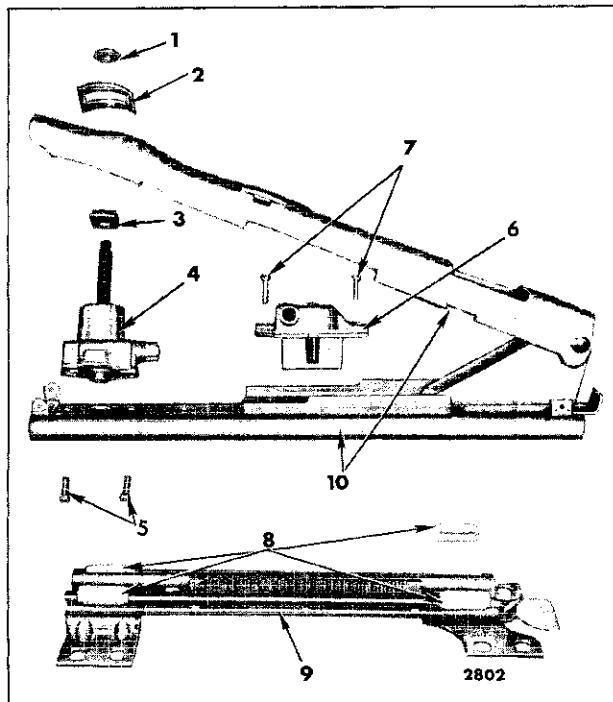

Fig. 15-12—Four-Way Seat Adjuster Components —
3. Raise upper portion of lower channel. Remove screws securing horizontal actuator assembly to adjuster lower track; then, remove actuator from adjuster assembly (Fig. 15-12).